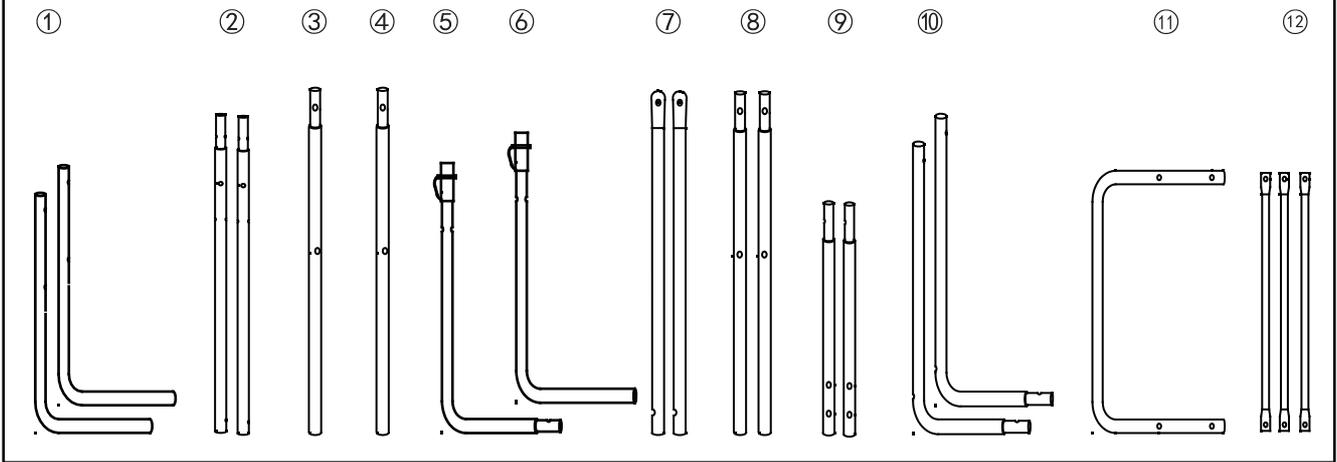

FIG. 1 & 2
3. Attach Tubes 2 (#2) to Tube 3 and Tube 4 (#3 & #4) using spring lock (pre-installed) as shown in FIG.1.